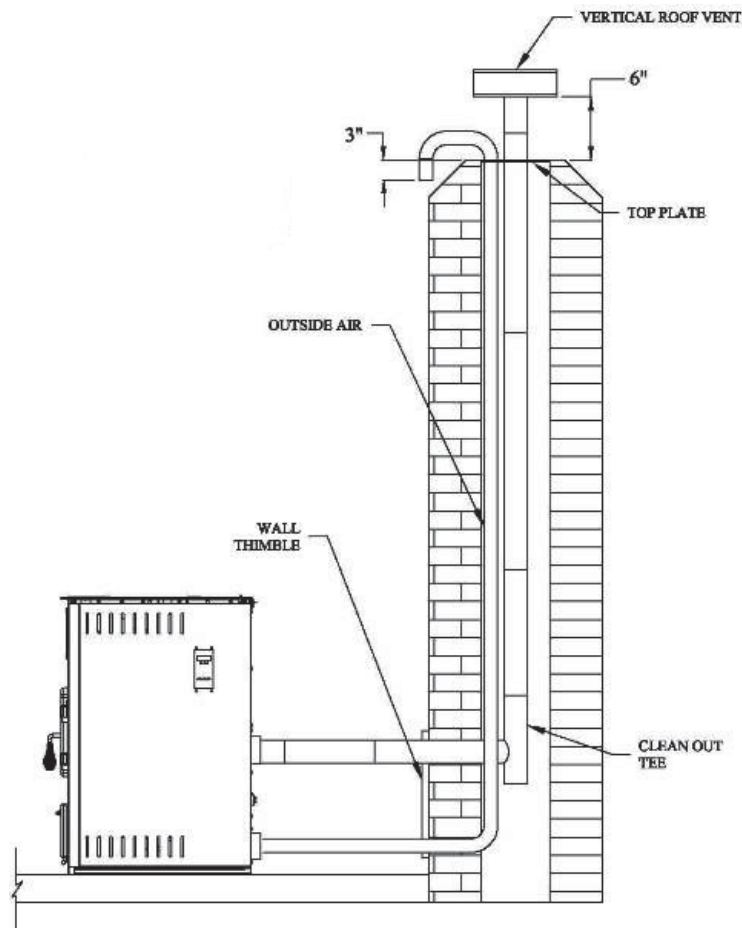

Figure 16
(Refer to figure 16)
4. Install the tee on the bottom of the vertical pipe system and lower it down the chimney until the center branch of the tee is level with the center of the hole in the masonry, as shown in Figure 16.
2.6. UNIT CONTROLS (See Figure 16)